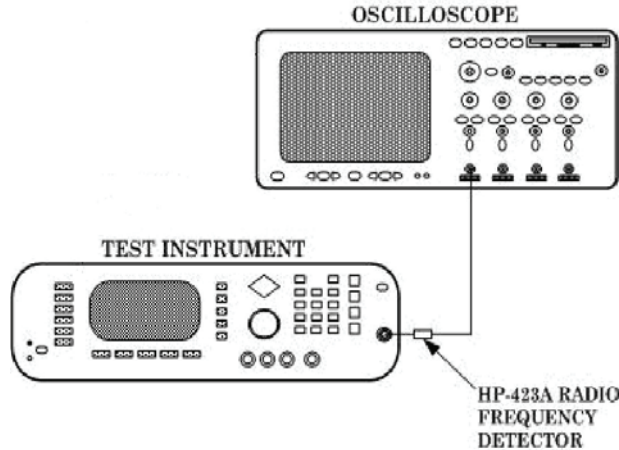

Figure 6. Pulse modulation hook-up.
- (1) Connect equipment as shown in figure 6.